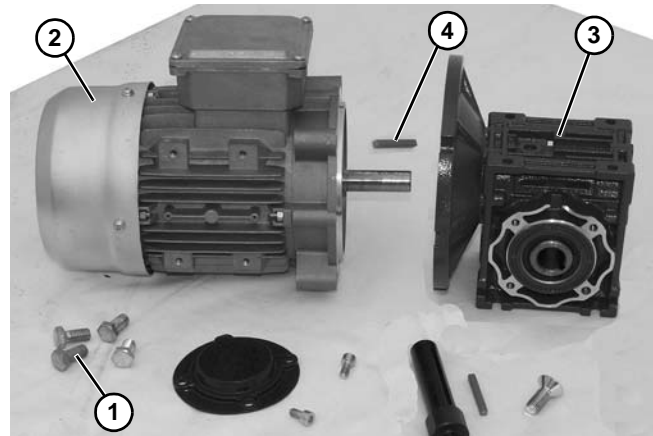

Figure 29
7. Remove four screws (**Figure 29, item 1**). Detach motor (**Figure 29, item 2**) from gear reducer (**Figure 29, item 3**). Retain shaft key (**Figure 29, item 4**).
8. Apply anti-seize to motor shaft before assembling to gearbox. With key (Figure 29, item 2) in keyway, slide motor (Figure 29, item 2) and gear reducer (Figure 29, item 3) together. Install screws (Figure 29, item 1) and tighten.
4. Apply anti-seize to motor shaft before assembling to gearbox. With key (**Figure 29, item 4**) in keyway, slide motor (**Figure 29, item 2**) and gear reducer (**Figure 29, item 3**) together. Install screws (**Figure 29, item 1**) and tighten.